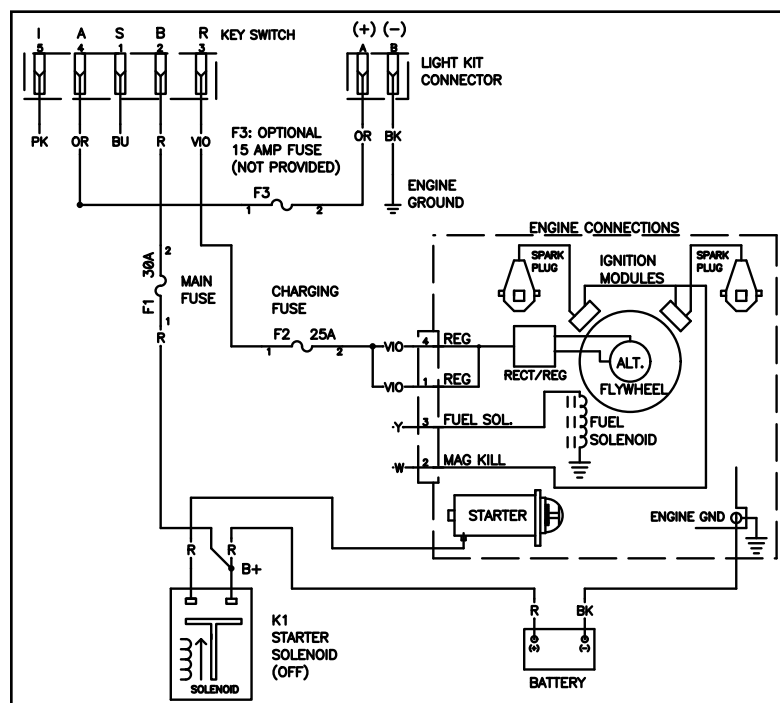

Fig. 137
- The fuses used in this application can also be be visually inspected. A failed fuse can be identified by the broken/melted element inside the fuse cover or a damaged spade (Fig. 136 and Fig. 137).